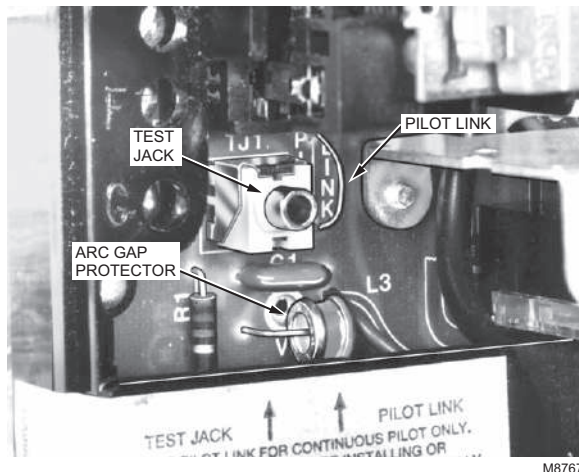

Fig. 7. Location of arc gap protector on RA890F.
For use with standing pilot systems. Clip the pilot link (wire loop in Fig. 7) as follows:
6. If the system has a standing pilot, make sure the pilot link (Fig. 7) is removed and the pilot is lit.